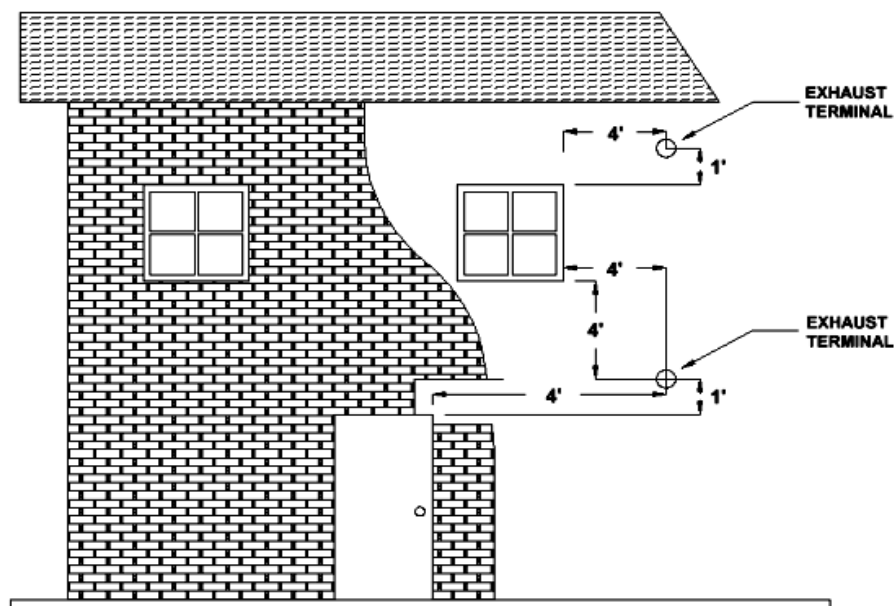

Figure 4a
**The type of installation must first be considered before determining the exact location of the venting termination in relation ship to doors, window, cavities or air vents. See figures 4a and 4b below.**
- a. **Without** Outside Air connected to the unit. For These types of installations please refer to the dimensions listed below in figure 4a.